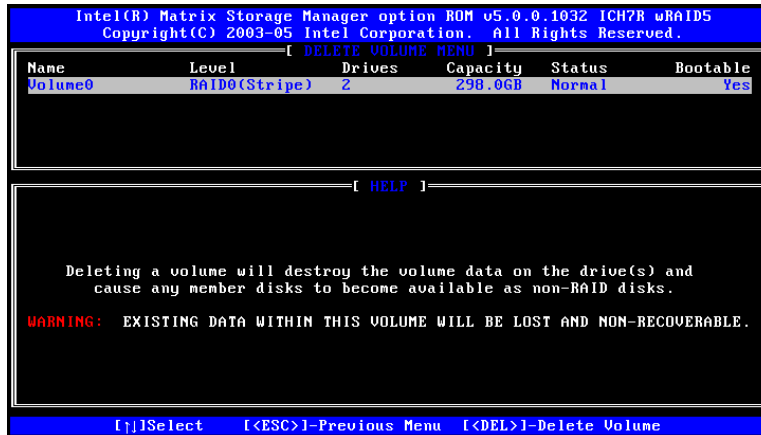

Figure E-9: Select RAID Volume to be Deleted
Step 2: Select RAID Volume to be Deleted. Use the arrow keys to highlight the RAID volume to be deleted and press **ENTER**. See **Figure E-9**.